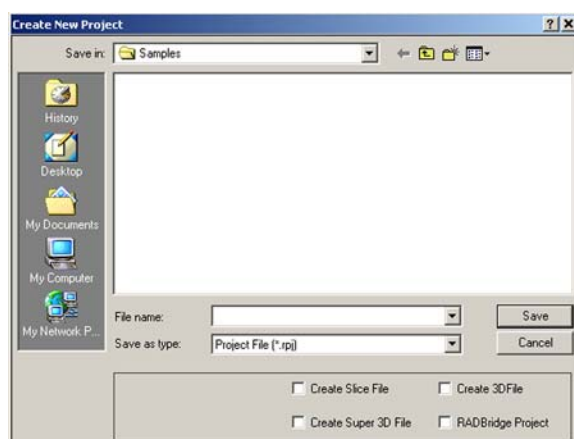

Figure 120: Create New Project dialog box.
- 2** Choose File > New and the Create New Project dialog box (Figure 120) will appear.